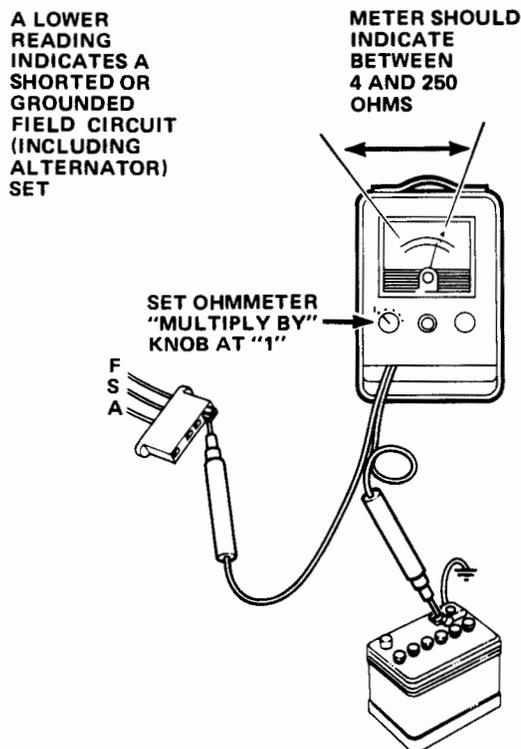

Fig. 3-8 Grounded Field Circuit Test
- (1) Turn ignition on and check for battery voltage at regulator S-terminal. If no voltage is indicated, check for open circuit between ignition switch and regulator. If battery voltage is indicated, proceed to step (2).
- (2) Turn ignition off and check for battery voltage at regulator A-terminal. If voltage is not indicated, or it is less than battery voltage, check yellow wire for open or faulty terminal connections at regulator and starter solenoid.
- (3) Using an ohmmeter, disconnect regulator connector and check brush and rotor circuit by connecting one ohmmeter lead to regulator connector F-terminal and other ohmmeter lead to a good ground (fig. 3-8). Ohmmeter should indicate 4 to 250 ohms. Less than 4